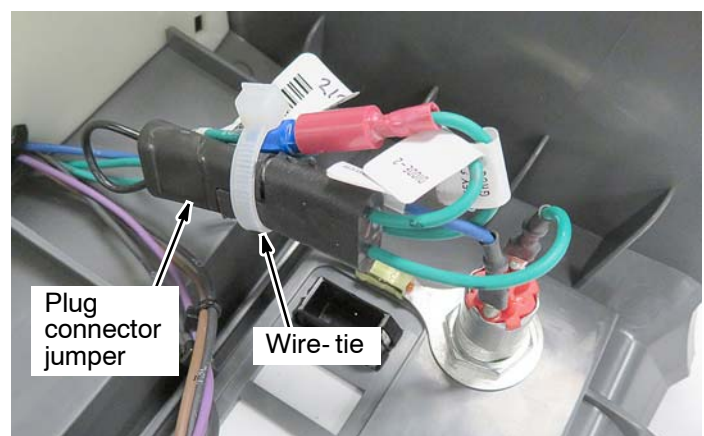

Fig. 3
5. Plug the jumper into the diode connector and secure jumper with wire-tie (Figure 3).